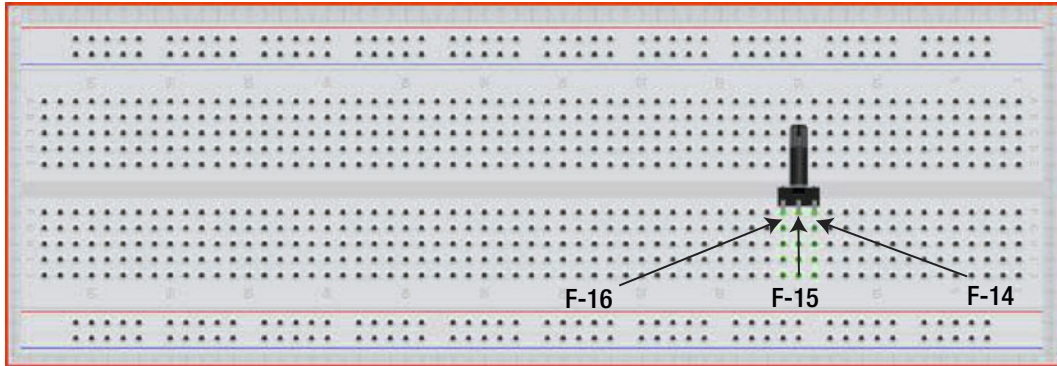

Figure 23-2. Attach the 10K-ohm potentiometer to the solderless bread board
1. First attach the potentiometer to the solderless bread board at F-14 through F-16, as shown in Figure 23-2.